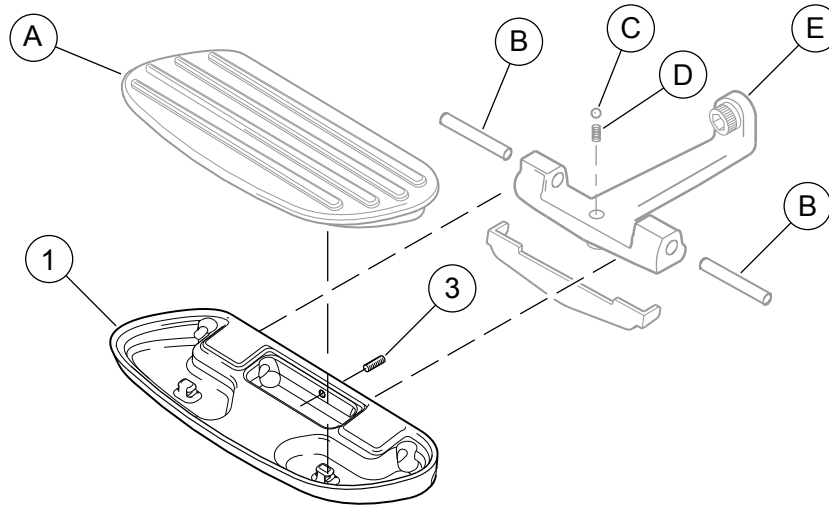

Figure 1. Service Parts: Swept-Wing Passenger Footboard Kit
See Figure 1 and Table 1.
- If passenger footboards are not currently installed:** Proceed to Step 4. **If passenger footboards are currently installed:** See Figure 1. Tilt the footboard (1) to the "up" position. Remove the underside chrome footboard covers if so equipped. From the bottom of the footboard, use a small flat-blade screwdriver to push the rubber beads on the pad up through the holes in the footboard pan. Remove the pad.
- Using a brass drift and rubber mallet, tap one pivot pin (B) out of the pivot hole into the center pocket of the footboard pan, remove the pin and set it aside. Repeat for the second pin.
- Remove the footboard from the support bracket (E).
- Place the detent spring (D) into the hole in the support bracket, and rest the steel ball (C) on top of the spring if not already in place.
- Align the pivot pin holes, and install the pivot pins from the outboard side. Using a brass drift and rubber mallet, tap the pins inward until centered in the lugs of the support bracket (E). Verify that the ball (C) remains seated in the detent on the underside of the footboard pan.
- Tilt the footboard to the "up" position. Tighten the setscrew (3) to secure the insert in place.